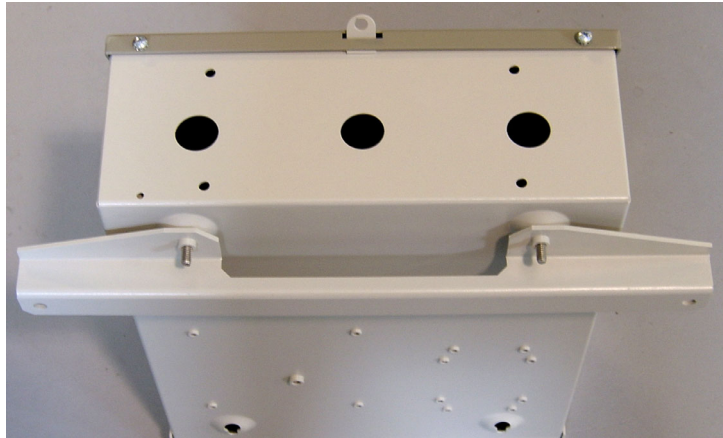

Figure 5: Underside of StarInverter and Lower Mounting Bracket
4. Attach the lower mounting bracket, being careful not to damage the heat sink cooling fins. See Figure 5.